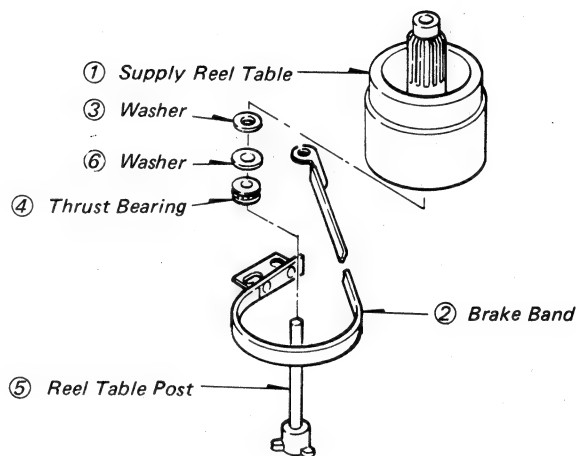

Fig. 5-29 Supply Reel Table Assembly.
1. Add or subtract the height adjustment washers ③ and ⑥ (refer to Fig. 5-29 and 5-30).
5-2-11 Replacing the Supply Reel Table (see Fig. 5-29)